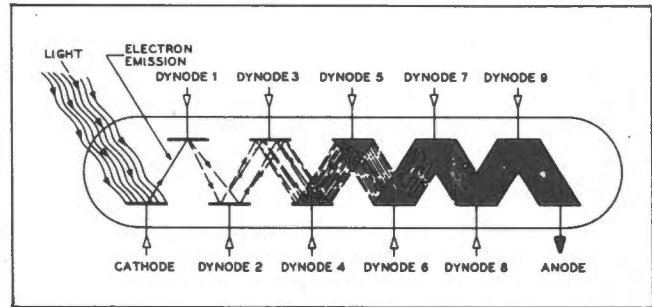
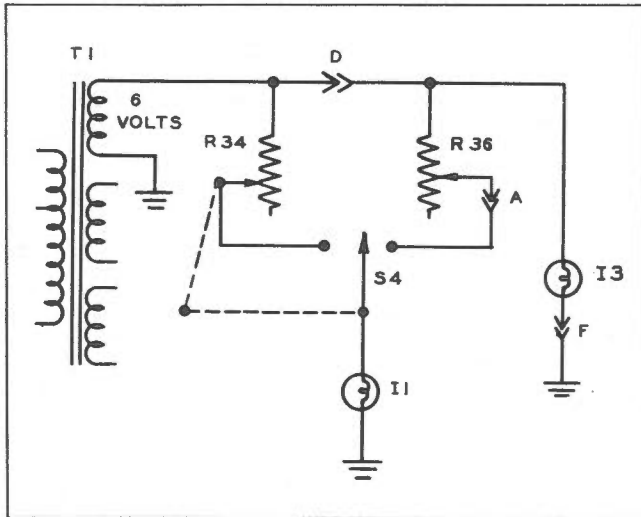

Figure 4-4. Electron Multiplication—Functional Drawing
Figure 4-5. Radar Transmitter T-28/APT-1
(1) Electrons are emitted from the light sensitive cathode when it is acted upon by light from the exciter lamp 11. (See fig. 4-4.)
(2) The electrons emitted by the cathode are attracted to dynode 1 by the positive voltage impressed on it.
(3) The electrons hit the first dynode with sufficient energy to knock other electrons off the surface. This is known as secondary emission.
(4) Each primary electron causes the emission of more than one secondary electron.
(5) These secondary electrons are attracted to dynode 2, and the process repeats to the dynode 9.
(6) The electrons leaving dynode 9 are attracted by the still higher positive voltage on the anode. The total electron current received by the anode will be much larger than that emitted by the cathode, the additional electrons entering the tube at the dynodes.
(7) The emission of an electron represents a pulse of current, and since the electrons are emitted at random, the output of the multiplier phototube contains many small random voltages which can collectively be called interference or hash. These are very small and ordinarily would not be noticed but can be amplified to any level.
(8) The hash output is adjustable by control of the brilliancy of the exciter lamp I1. This adjustment is made with the "OUTPUT LEVEL" control R34 on the panel of the transmitter, or with the "OUTPUT LEVEL CONTROL" R36 on the control unit.
(9) The circuits for control of the exciter lamp I1 are shown in figure 4-5.
(f) In figure 4-5, the connectors A, D, and F are on plugs AN3102-18-9S and 9P, which are part of the cable connecting the control unit to the transmitter.